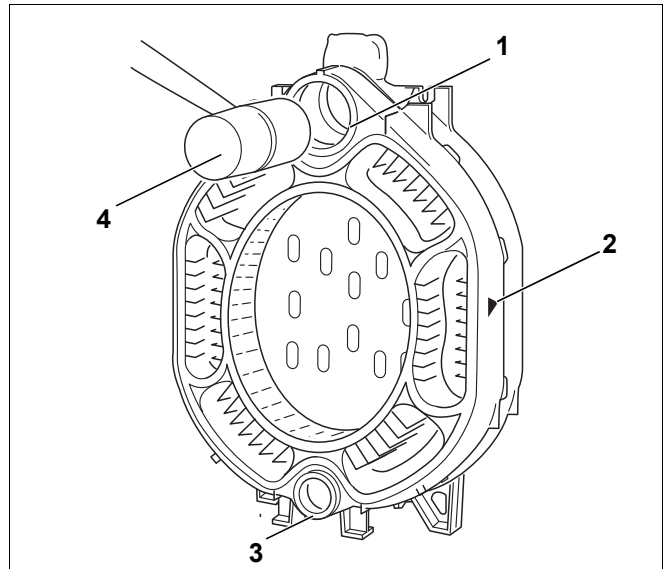

Fig. 13 Pushing home the central section
- Set the middle section with the upper and lower hubs (→ Fig. 13, [1] & [3]) onto the nipples in the rear sections. Note: the assembly arrow (→ Fig. 13, [2]) must point to the rear.
- Drive the first centre section onto the end section using a wooden or a rubber mallet (→ Fig. 13, [4]).